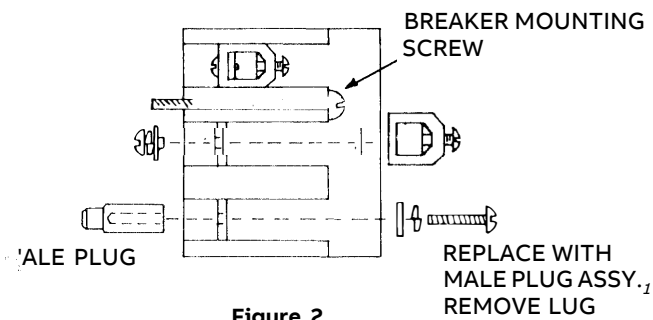

Figure 2
2. Replace each lug with male plug, mounting Type TE with #10-32 x 1/2" long screw or Type TF with 1/16-20 x 1/2" long screw provided. Use flat and lock washer as shown in Figure 2.
3. Mount plug-in base with (2) 1/16" bolts, (not supplied) to proper support, using the dimensions shown in the table and drawing (reverse side of this sheet) for location of bolt holes.*